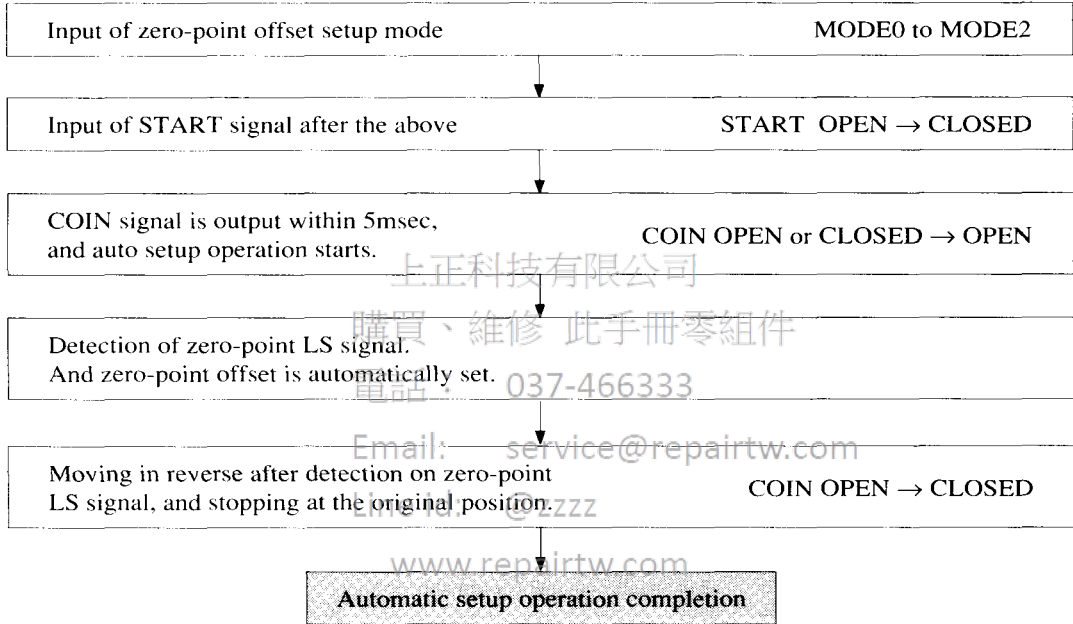

Fig. 4.6 Sequence of Zero-point Offset Automatic Setup Operation
- **Sequence** Fig. 4.6 shows the sequence of zero-point offset setup operation.